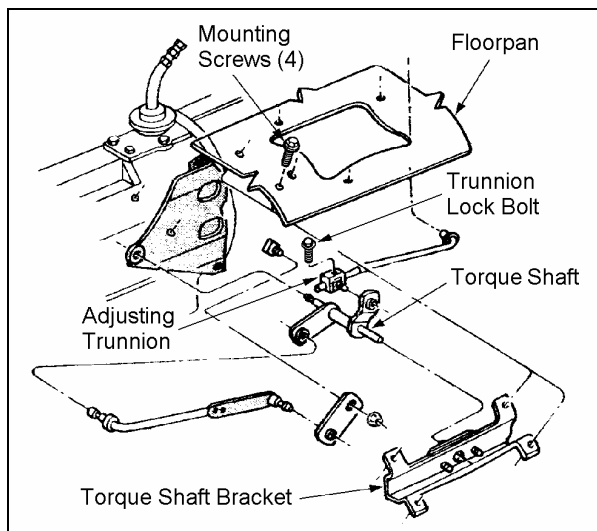

Figure 13
2. ☐ Remove the four screws that attach the torque shaft bracket to the floor pan. See figure 13.